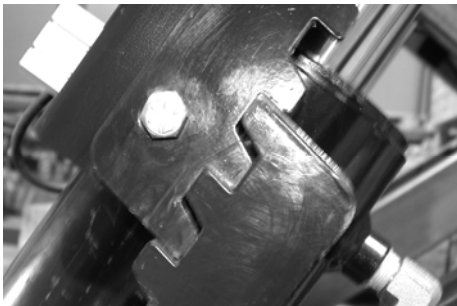
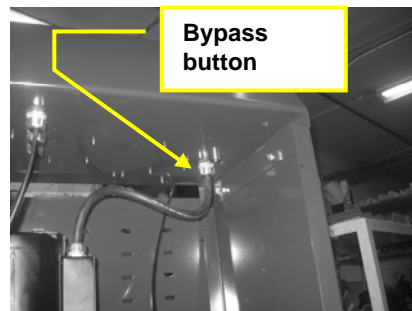

Figure 15-Safety lock position for bleeding.
Figure 16- Location of bypass button.
3. Using the “BYPASS” button inside the console see **Figure 16**, start raising the lift to the last lock position as shown in **Figure 15**.
NOTE: Ensure the gauges inside the console are monitored and pressure does not reach 1000 psi. If 1000 psi is reached, lower the lift onto the locks to relieve the pressure. Continue to raise the lift until both sides of the lift are on the last lock position. (Figure 15)